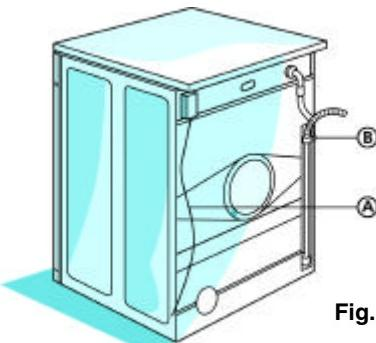

Fig. 1
- 1. Unhook the drain hose from the left clip; see arrow A in Fig. 1.
Do NOT loosen the drain hose connection; see arrow B in Fig. 1, otherwise there is the risk of leakage (danger of scalding with hot water).
- 2. Fit the drain hose either to the siphon or hook it over the edge of a sink or bath tub with the "U" bend (Fig. 1). Small hand basins are not suitable.